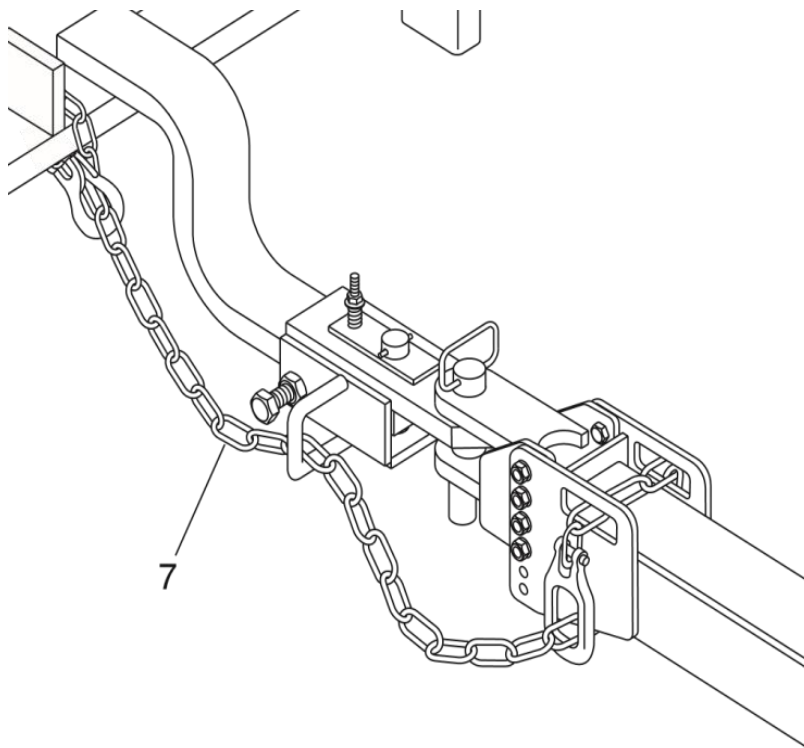

Figure 18 : Safety chain
CAUTION: Attach a safety chain (item 7, FIGURE 18) with a minimum capacity of 9071 kg (20 000 lbs) for transport.
8. Install the safety chain (item 16) between the tractor frame and the Forage Harvester. Refer to Figure 18 : Safety chain on page Figure 18 : *Safety chain* for more information on how to install the safety chain.